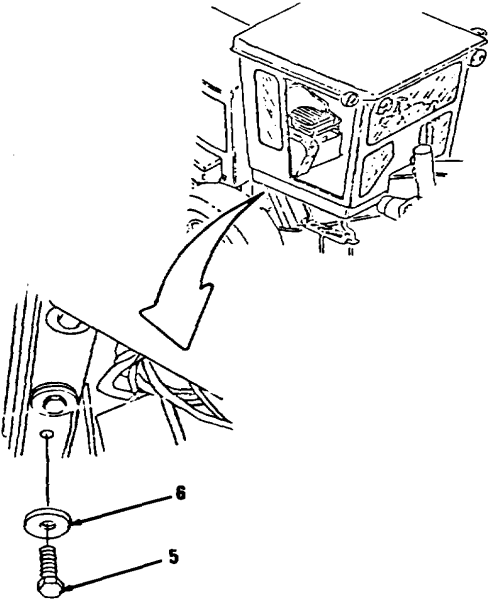

Figure 9-3.
- 4. Remove six bolts (6), retainers (7, Figure 9-3) from right and left sides of cab.